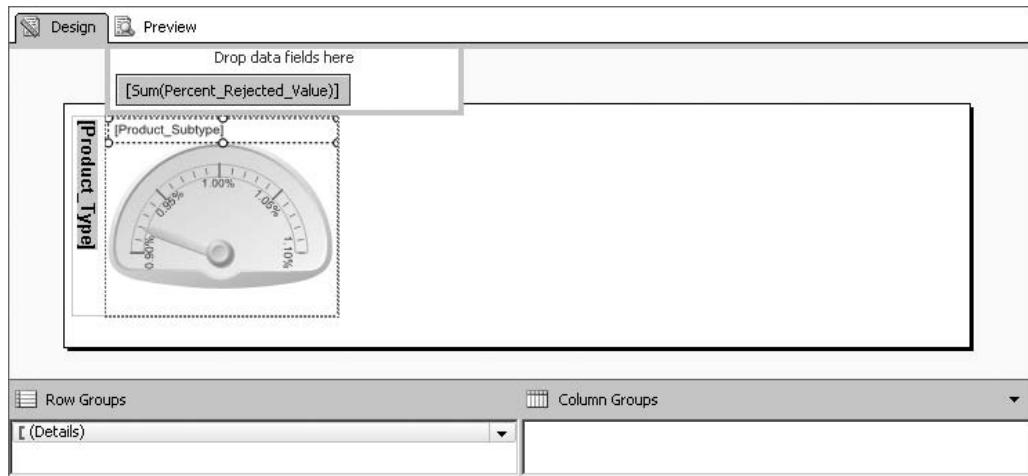

Figure 16-66 The Percent Rejected Dashboard Report layout—final version
80. Click OK to exit the Label Properties dialog box. The report layout should appear as shown in Figure 16-66.